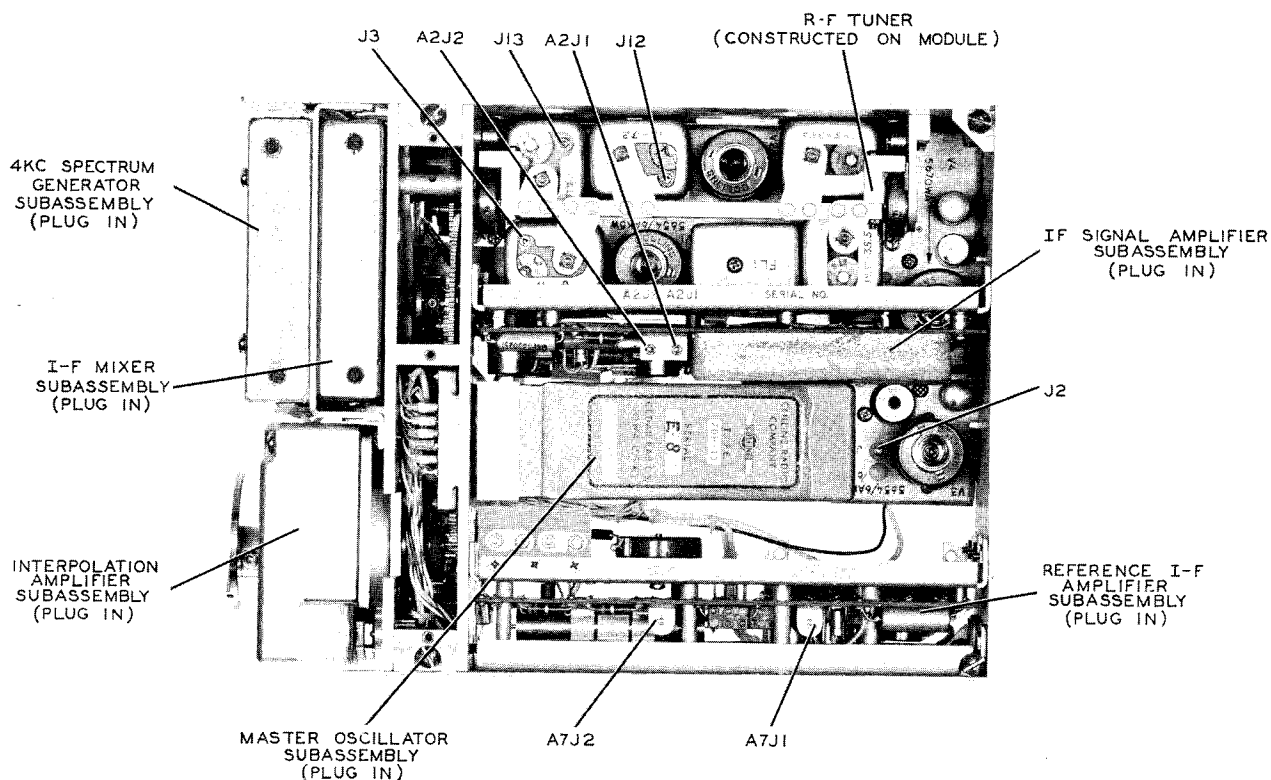

Figure 5-8. Converter-Oscillator CV-731/URC, SMO Module Alignment Points and Subassembly Location
a. Connect the SMO to the chassis through an extension cable, and apply power to the equipment. Short A2J2 to ground (see figure 5-8).
b. Allow a five-minute warmup. Connect vtm (with r-f probe) to J13 (see figure 5-8).